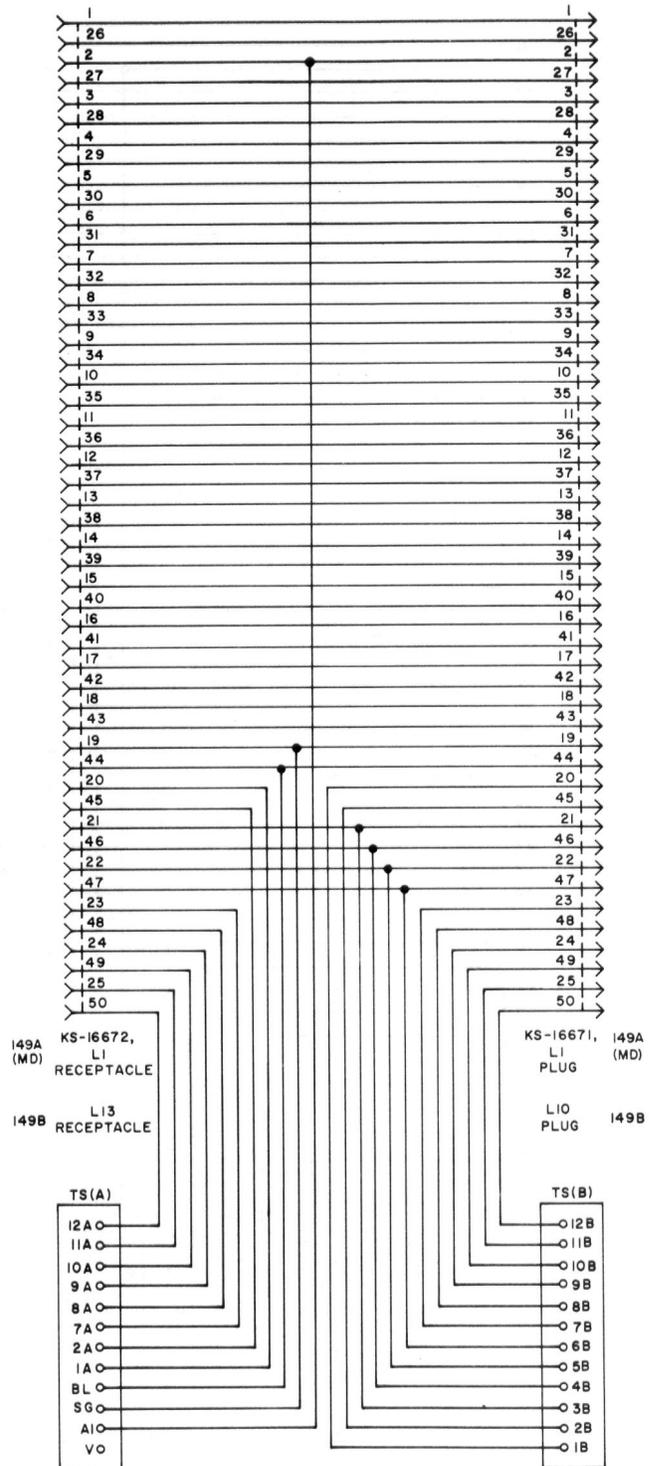
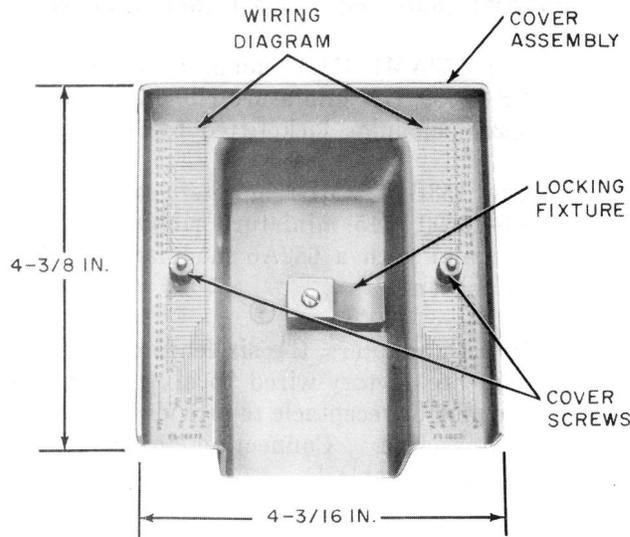

Fig. 5—149A (MD) and 149B Adapters, Schematic
Fig. 6—149B Adapter, Inside Cover
- The plug and receptacle are wired as shown in Fig. 5. Terminal strip A is wired to pins of the receptacle, and terminal strip B is wired to pins of the plug.
- Has a removable high-impact polystyrene cover (Fig. 6).
- A reversible locking fixture attached to the inside of the cover (Fig. 6) secures an external plug (KS-16689, L1 plug-ended cord) to the KS-16672, L13 receptacle.
- The wiring diagram (Fig. 5) is also molded into the inner surface of the cover assembly (Fig. 6).